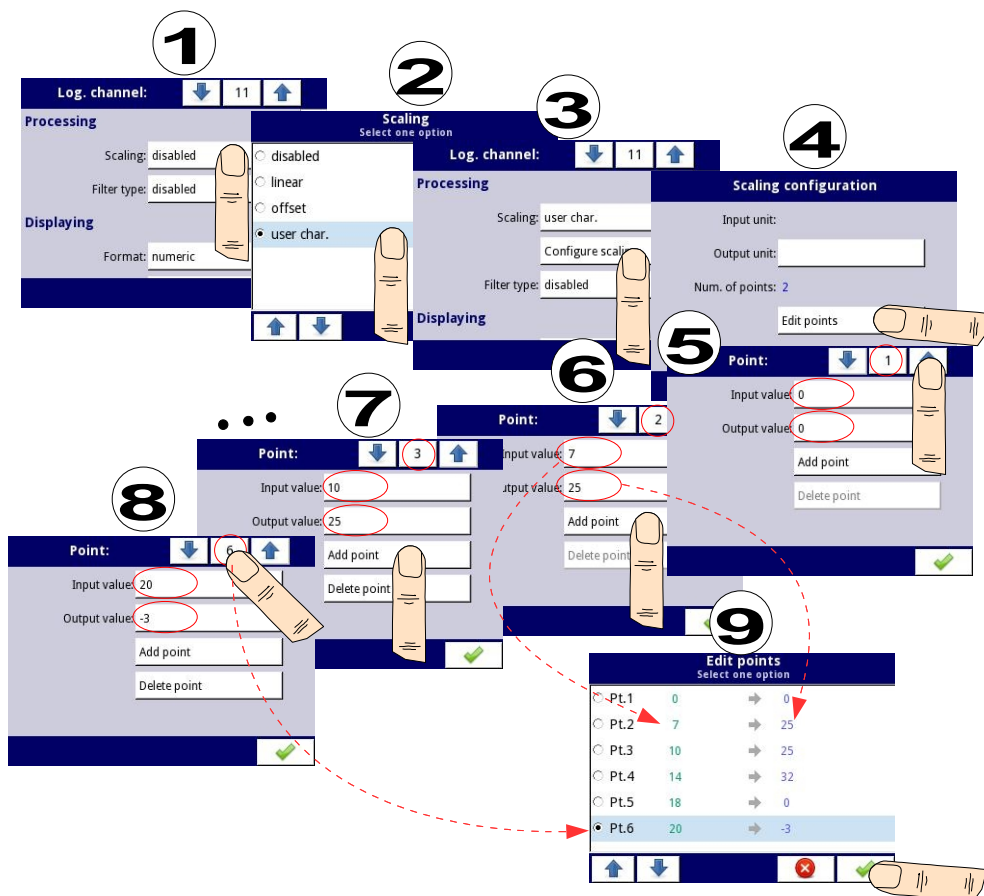

Fig. 7.33. Configuring the user characteristic
1. Press the button next to the **Scaling** label and select **user characteristic** option (point (1) and (2) in Fig. 7.33).
2. Press the **Configure scaling** button and enter the **Scaling configuration** menu (point **(3)** in Fig. 7.33).
4. Press the **Edit points** button (point **(4)** in Fig. 7.33) and go to **Edit points** menu.
For **Point 1** set input and output value (point **(5)** in Fig. 7.33).
5. Switch to **Point 2** by using the arrow keys and there also set the value of input and output (point **(6)** in Fig. 7.33).
8. At the end we check all the points defined by clicking the middle button between the arrows in the upper right corner of the screen (point **(8)** and **(9)** in Fig. 7.33).